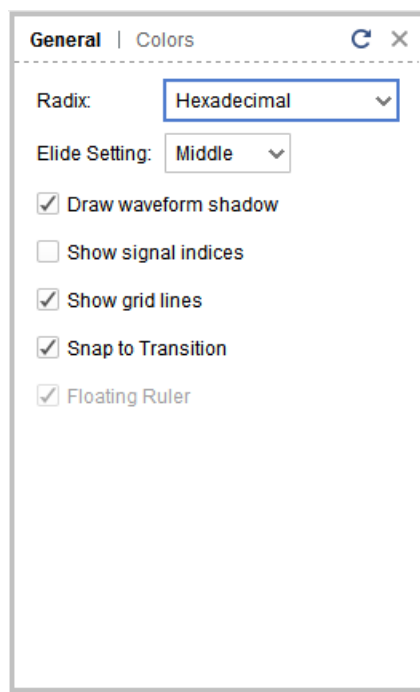

Figure 23: Waveform Options - General View
3. Select the **Draw Waveform Shadow**, as shown in Figure 23, to enable or disable the shading under the signal waveform.